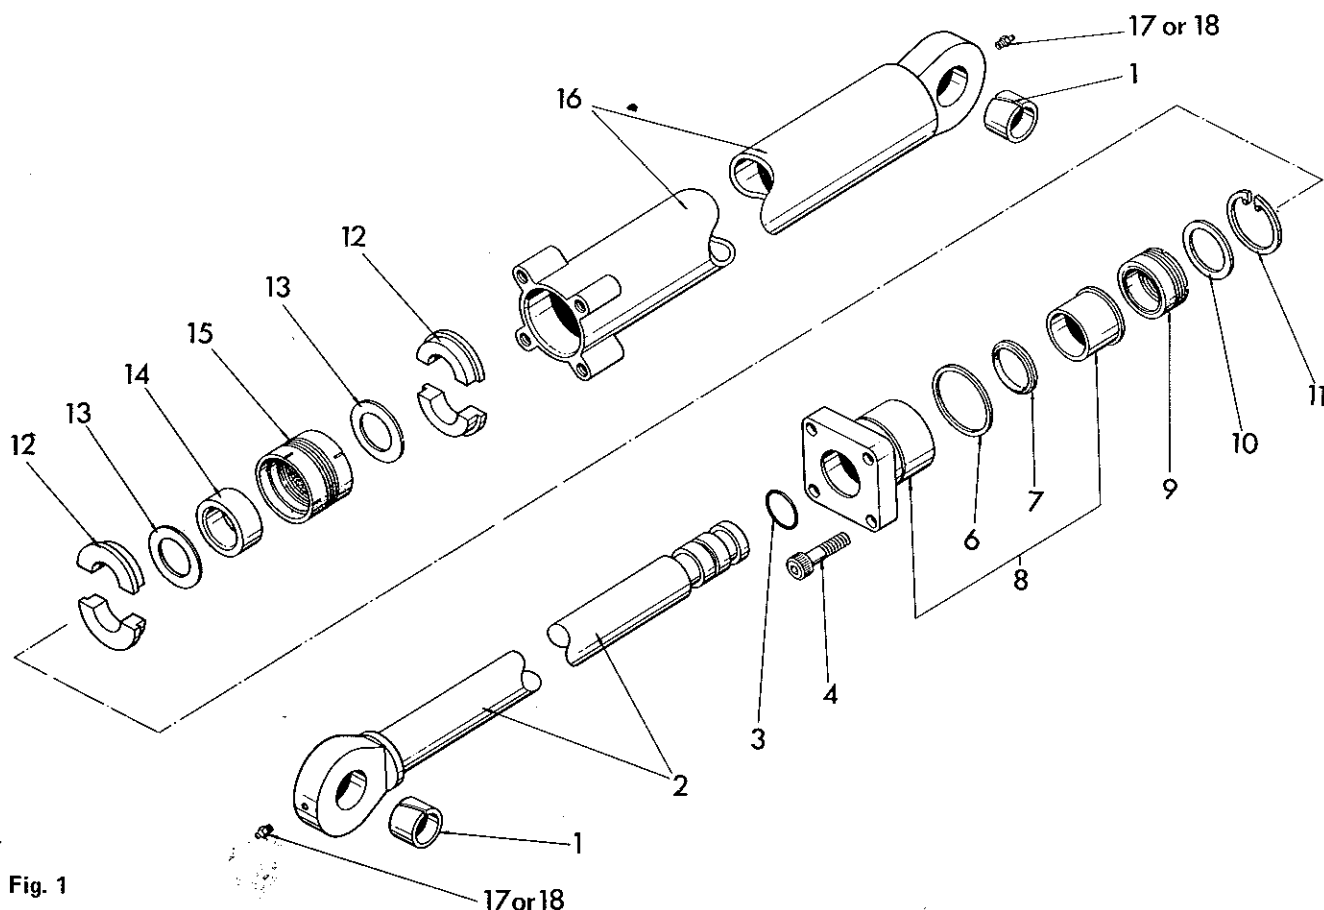

Fig. 1
4. The internal components are illustrated in fig. 1.